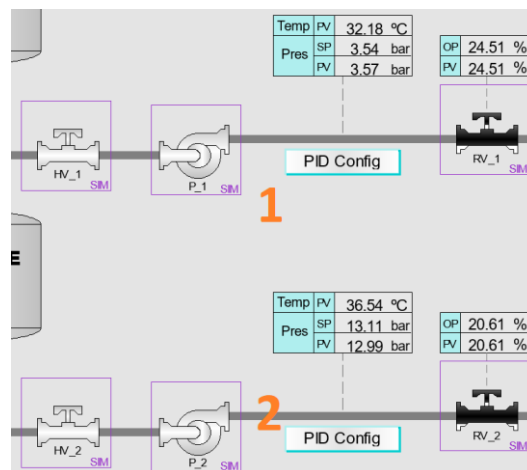

Figure 6 Main LPG control display example (Source: Experion HS)
- To access the PID control graph of the automatic butane or propane regulating valve, double-click on the respective PID Config buttons (Indicators 1 and 2 in **Figure 6** respectively).